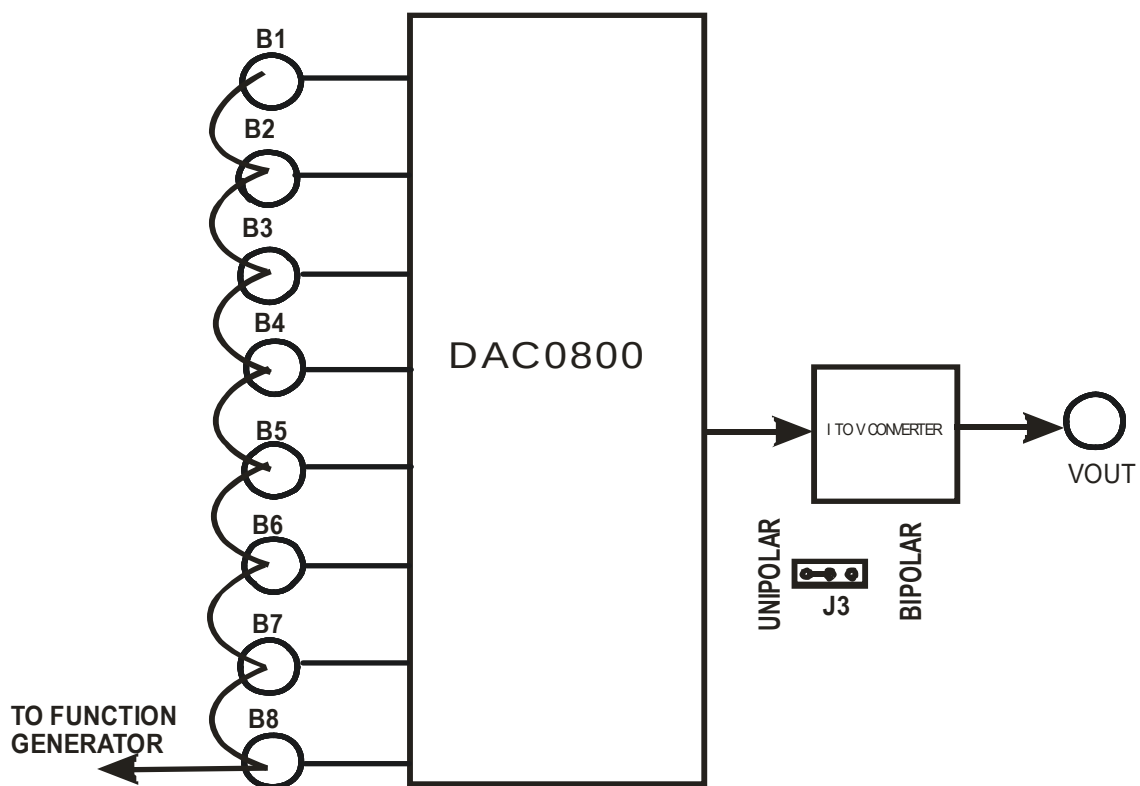

FIGURE-3.8
1. To measure the settling time, give TTL square wave of 1 KHz from Function generator to all the input (B1-B8) of the 8 BIT MONOLITHIC DAC by shorting all the input together as shown in FIGURE-3.8